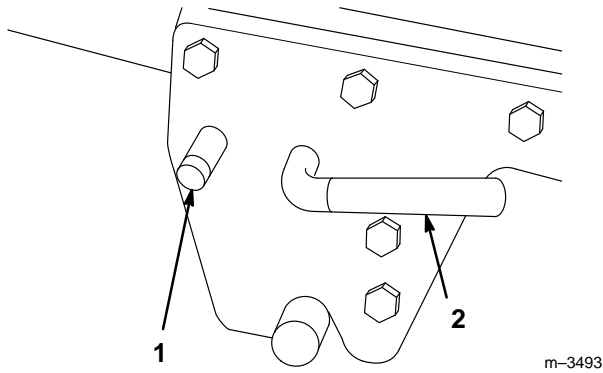

Figure 21
7. Release the crank support for the chute control rod from the mid Attach-A-Matic™ by pressing the release button and turning the Attach-A-Matic™ lever clockwise (Fig. 21).